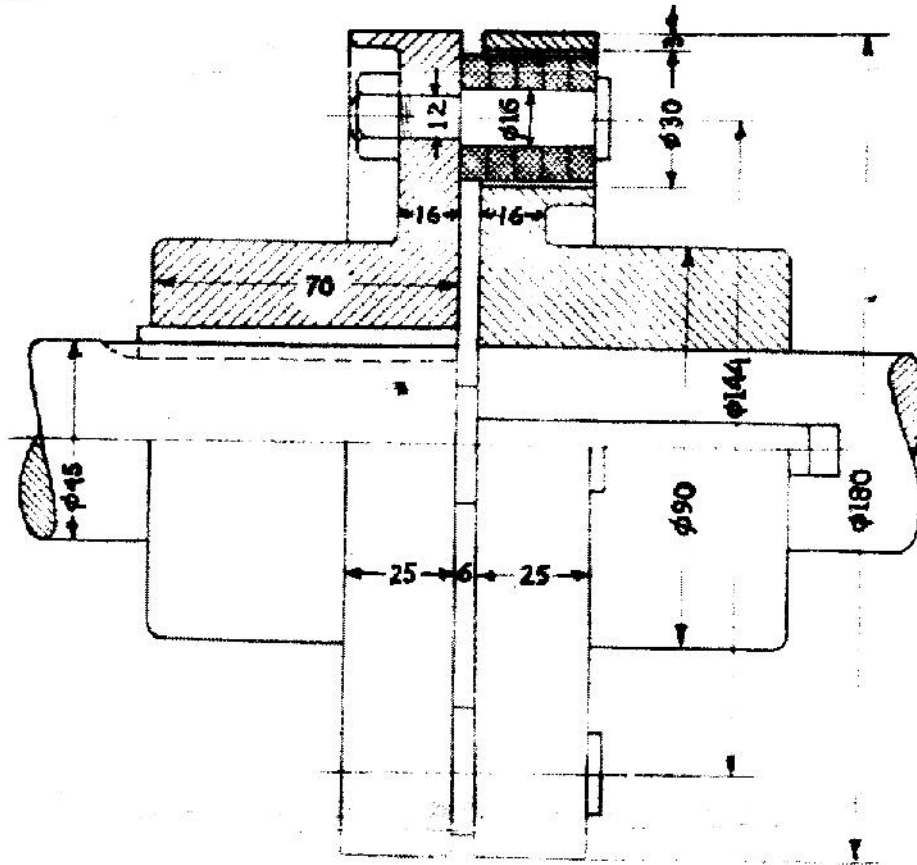

Fig. Q2
2. Fig. Q2 shows the half-sectional elevation of a flexible shaft coupling. Make detailed drawing of the components with two views of each of them. 50